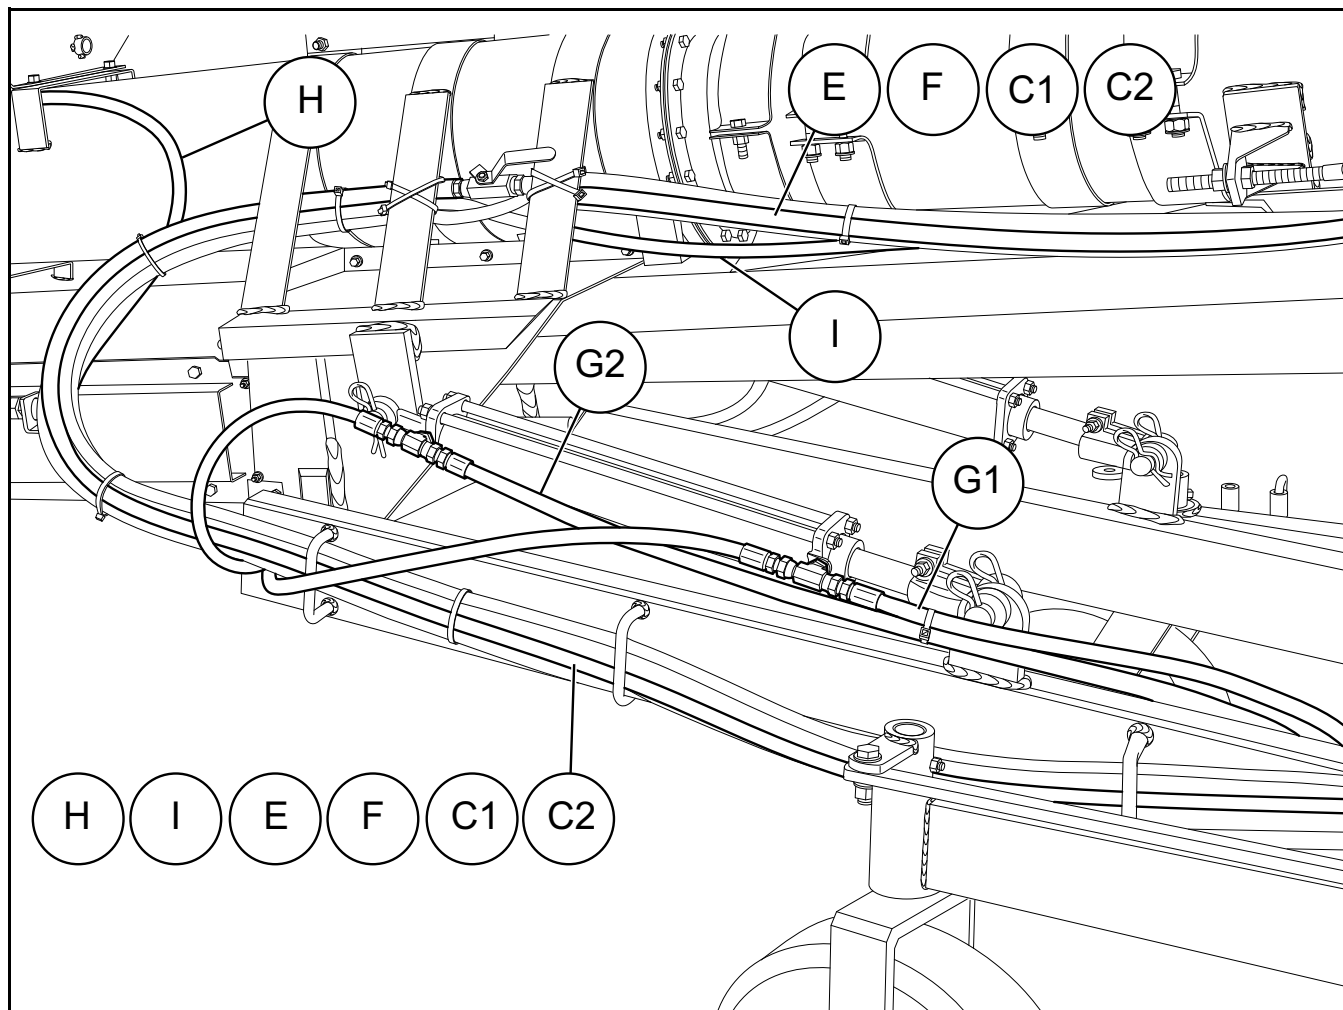

Figure 3.27 Hydraulic Hoses
13. Insert hoses C1, C2, E, F, I, and H through the loops on the Cam-Lift toward the spool valve (see Figure 3.27).